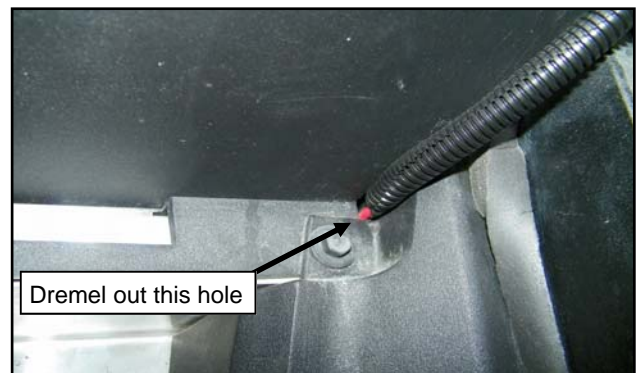

Fig. 3.3 (Hole for Wire Routing)
- 3.3** Feed the wires from the driver's side heater down through the same hole. Fig. 3.3.